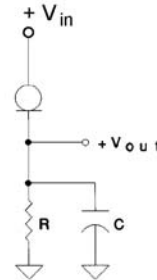

Figure 21. Low Voltage/Low Noise Voltage Reference
**Low Voltage/Low Noise Voltage Reference**—The CLD can be used to produce a low voltage reference when operated to drive a known resistance (Figure 21). This circuit produces much lower noise than a standard low voltage reference designed with a zener diode. A low noise capacitor across R will further reduced noise.